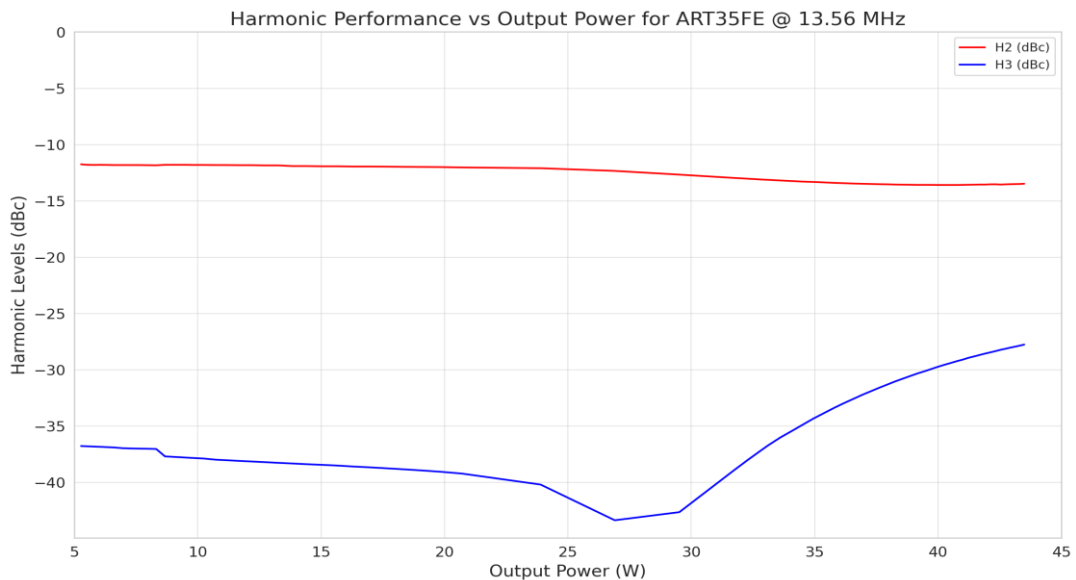

Figure 9 Harmonic Performance vs Output Power
- Figure 9 Harmonic Performance vs Output Power 8